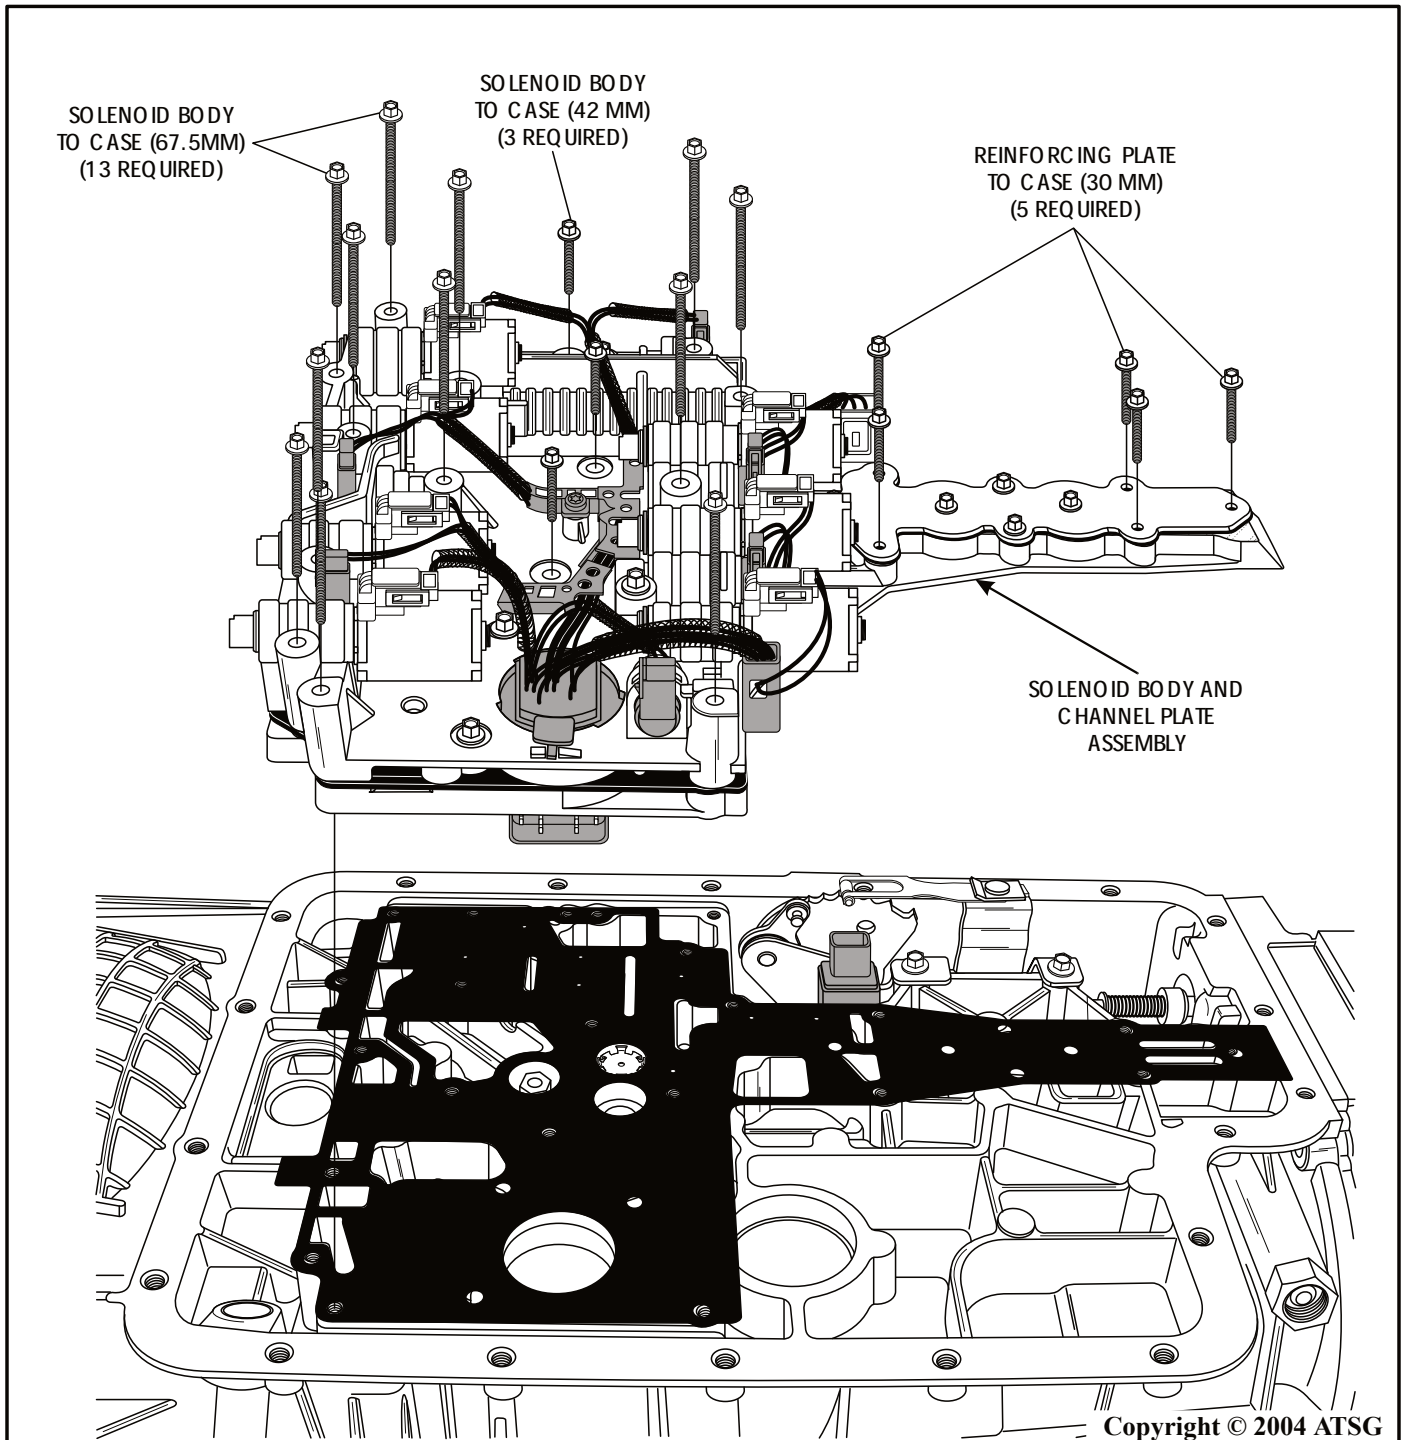

Figure 34
14. Remove only the valve body bolts **not shaded** in Figure 33, which are the bolts that retain the valve body to the case, as shown in Figure 34.
15. Remove the valve body from the case using a slight twisting motion to remove the main case connector from the case bore (See Figure 34).